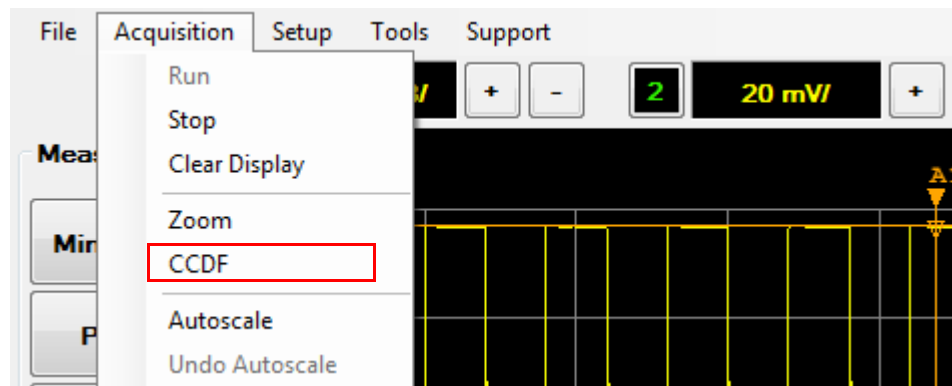

Figure 2-62 CCDF selection in the Acquisition menu
- 1 Select **Acquisition > CCDF** on the toolbar as shown in Figure 2-62.